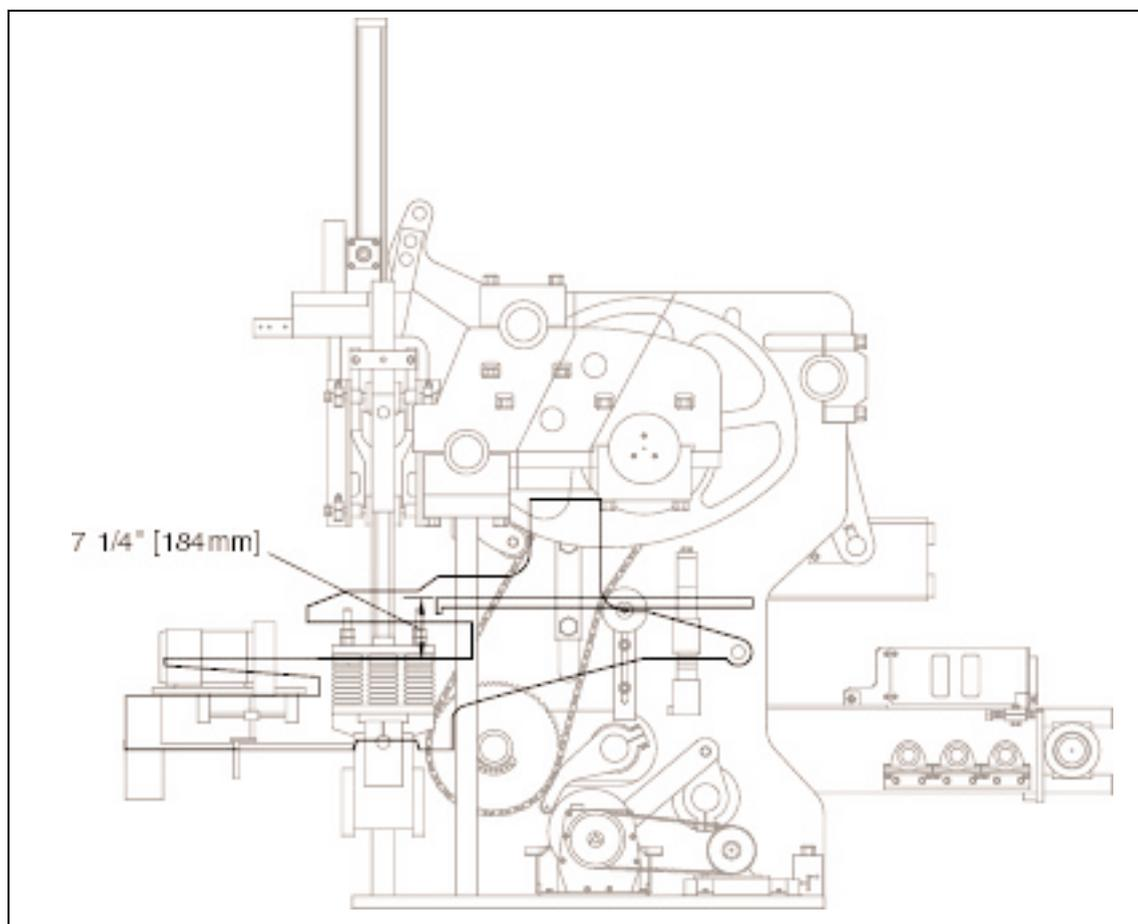

Figure 4.41 APRON PLATE ABOVE MOLD THROAT ADJUSTMENT.
- 4.3.3 Reconnect autofeed linkage and adjust so that the top of the apron plate is **184mm [7 1/4"]** above the mold throat at the lowest position of the autofeed (see figure 4.41). To adjust, lower or raise the autofeed until apron plate is in correct position.